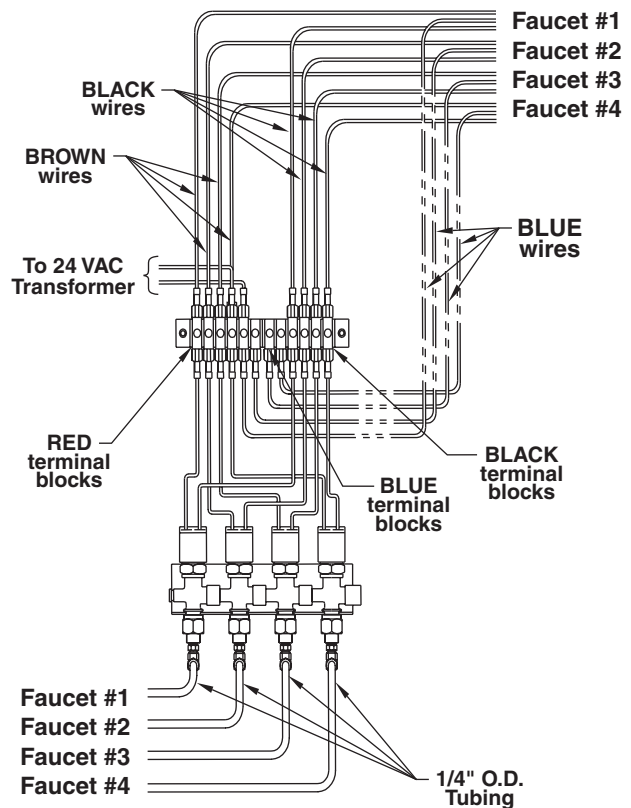

Figure 2
NOTE: Refer to Figure 2 for the 900 Series Futura faucet when replacing tubing and wiring connections. Figure 2 illustrates components that are pre-wired and provided with the 4TMAS cabinet. Additional wire and tubing supplied by installer.
IMPORTANT: When making electrical connections, ensure each faucet is wired to the terminal block connected to the matching solenoid valve as shown in Figure 2.
3. For Bradley 900 Series Futura faucets, make electrical connections from the 24 VAC transformer and each faucet to the terminal block following the wiring diagram in Figure 2.